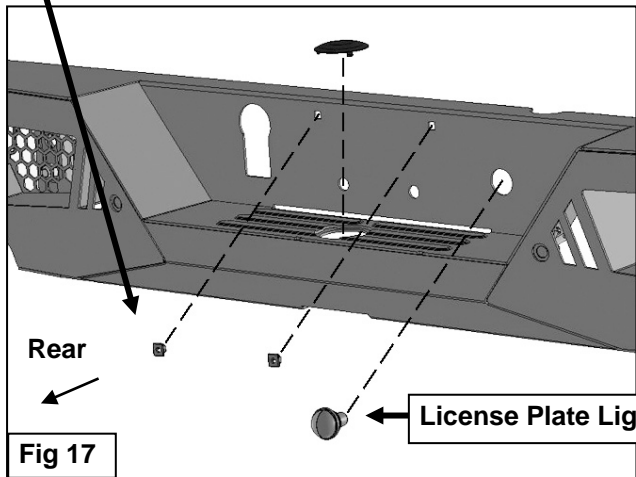

Fig 17
10. Insert the included (2) push-in plugs to attach the license plate to the Bumper, **(Figure 17)**. Insert the included License Plate Light into the mounting hole in the bumper, **(Figure 17)**.